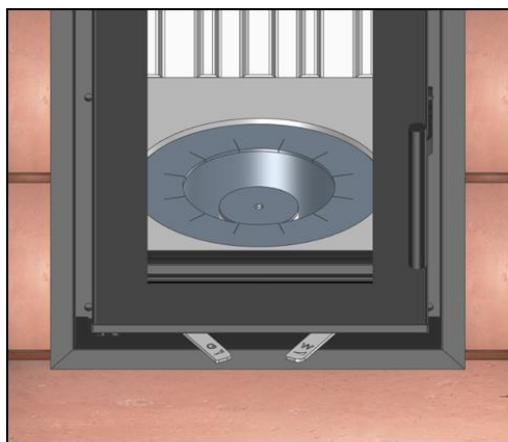

Fig.1 Setting of regulators when choosing combustion of wood gas generated from pellets
The handle of the air supply regulator for pellet gasification and wood gas combustion is located in front of the glass loading door on the LEFT side (marked with the letter **G**), and the handle for the regulator for burning lump wood/briquettes is located on the RIGHT side (marked with the letter **W**). The direction of opening or closing the air flow is illustrated by the cutouts in the regulator handle (smaller or larger air supply). Before loading pellets for gasification and burning with wood gas, you should OPEN the air flow on the left pull rod (G) by moving it to the right, and at the same time CLOSE the air flow on the right pull rod (W) by moving it to the left. When burning wood, do the opposite (see Figure 1).